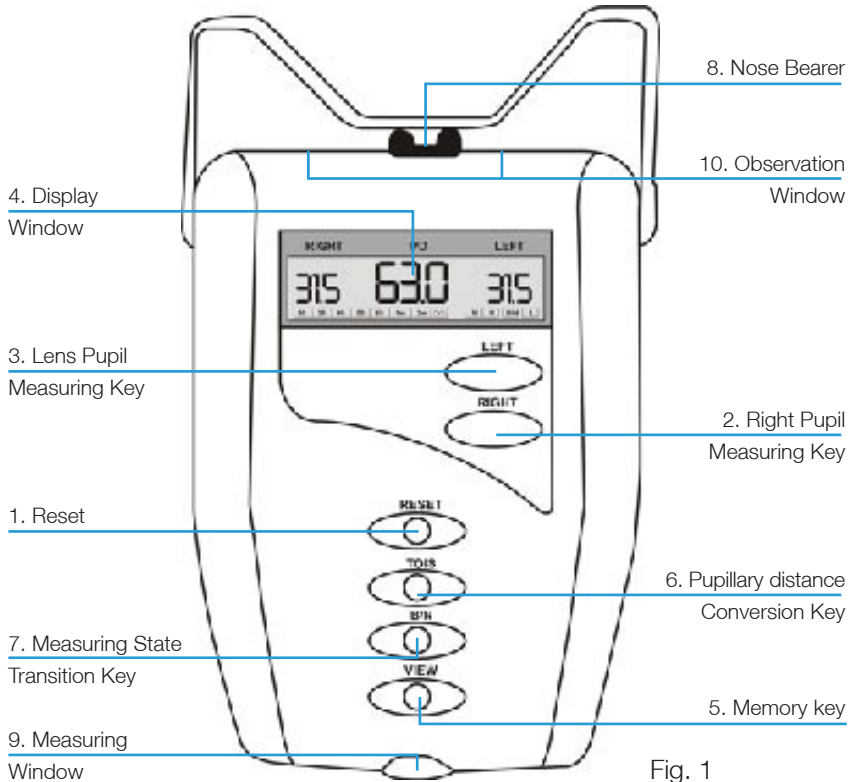

Fig. 1
2.1 Description of the Front Panel (as shown in Fig.1)